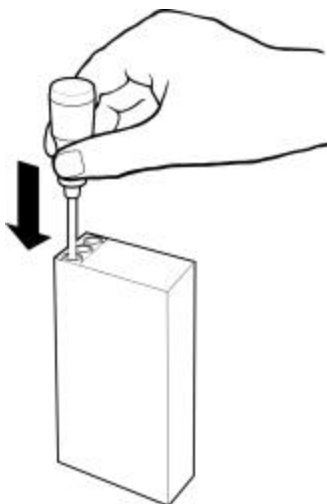

FIGURE 8
- 3) Load a probe cover onto the probe by holding the probe collar with the thumb and forefinger, being careful not to hold or press the ejection button. Refer to Figure 8.